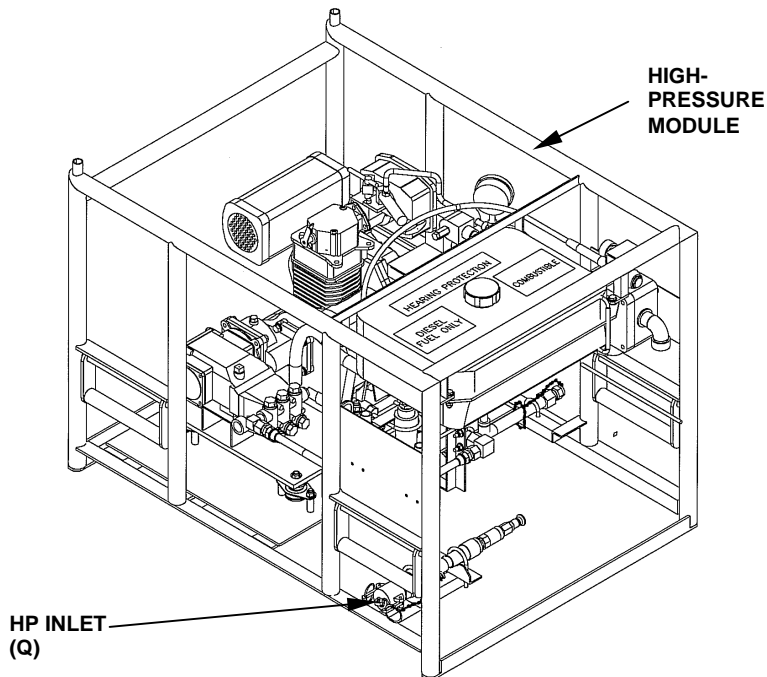

Figure 6. High Pressure Pump Module Inlet Connection.
10. Attach the other end of the HP pump feed hose (orange) to the inlet connection of the high-pressure pump module. See Figure 6.